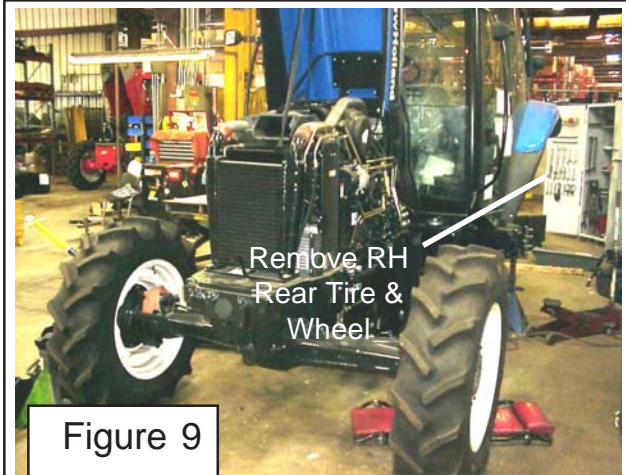

Figure 9
1. Remove RH Rear Tire and Wheel (If Required, See Assembly Drawings sent with unit). Use proper Floor jack to lift the RH Rear Wheel, Support the tractor with proper jack stands rated appropriately for the tractors weight. The RH rear tire and wheel should be removed for this installation by using the over head hoist to support and lift the wheel and tire assembly. The tractors factory fuel tank is mounted behind the RH rear tire and wheel (See Figure 9).